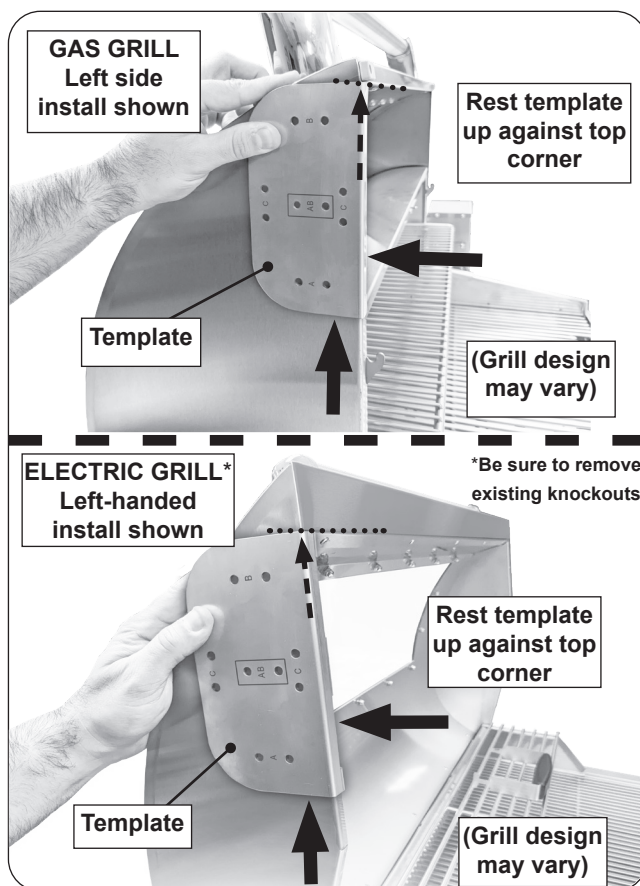

Fig. 1-2. Place drilling template (on hood)
3. Open oven hood and place the stainless steel drilling template onto the oven hood as shown in Fig. 1-2. Ensure the template is fully pressed against the hood side bottom flange and against the top corner of hood.